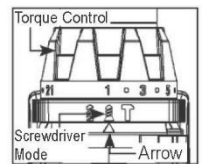

Fig. 13
3. Fastening torque is greater as the numerals are larger and when set to the drill position the driver/drill has full torque. Overloading and stalling the drill at any time can lead to motor burnout and also dramatically reduces battery life. (Fig. 13)